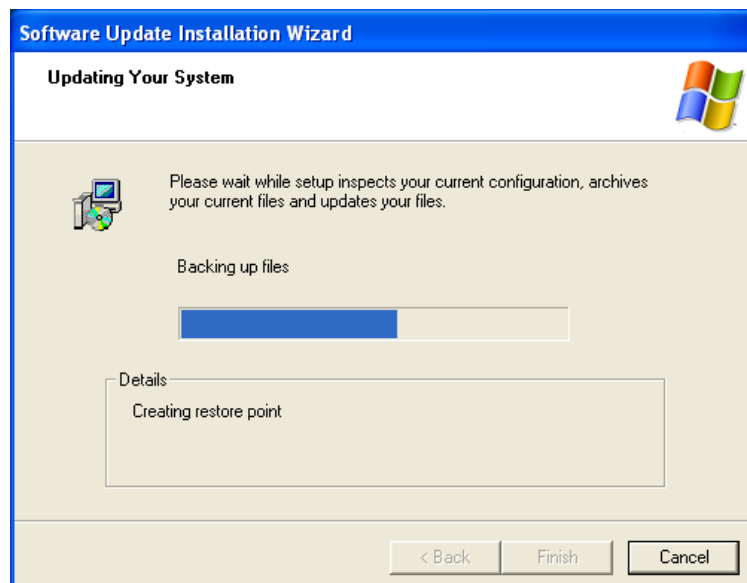

Figure 8-26: Audio Driver Software Configuration
Step 11: InstallShield starts to install the new software as shown in **Figure 8-26**.